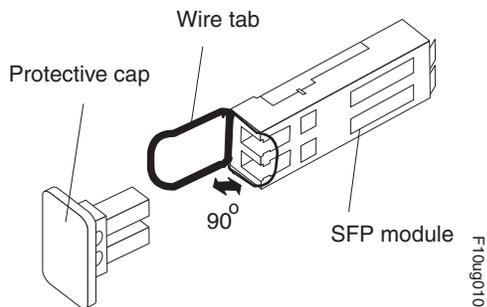

Figure 76. Unlocking the SFP module latch - wire variety
- For SFP modules that contain wire tabs, unlock the SFP module latch by pulling the wire latch outward 90°, as shown in Figure 76 on page 120.